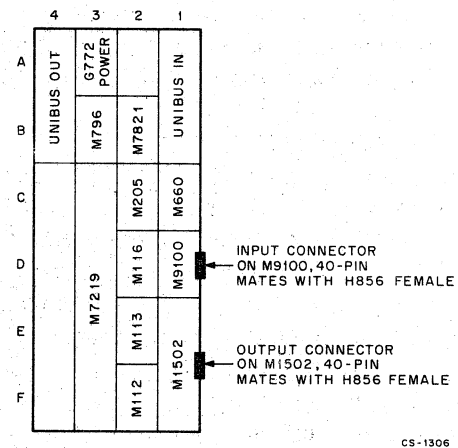

Figure 2-3 DECKit11-D Slot Assignments - Module Side
Figure 2-3 shows the DECKit11-D slot assignments from the module side. After installation, secure the modules with the H852 and H853 module holders. Fasten one H852 module holder between module locations E and F, fasten the other H852 between locations C and D. The H853 module holders are fastened between module locations D and E, and B and C. Slots AB01 and AB04 are the Unibus I/O slots. The use of these slots varies with the type of installation (Paragraph 3.3.1).
Installation of DECKit11-D into a cabinet containing other system units requires an M920 Unibus connector module. The M920 module plugs into slot AB04 of the existing system unit and into slot AB01 of the kit (Figure 2-3). When the kit is installed as the first system unit in an expansion box, a BC11A-XX* cable (of correct length) is required to connect between slot AB04 of the last system unit in the cabinet or previous expansion box and slot AB01 of the kit.
Neither the M920 module nor the BC11A-XX* cable is supplied with the kit. An M930 terminator module must be installed in slot AB04 of the kit (Figure 2-3) when the kit is the last device on the Unibus. The M930 module becomes available when the Unibus is extended from the previous system unit.
There are three wire harnesses available for use in connecting the DECKit11-D to PDP-11 systems. Each expansion mounting box is equipped with a wire harness, terminated with a G772 connector, to mate with power connector slot A03 (Figure 2-3) of the kit. Early PDP-11
Two cable assemblies are required for transferring the user's I/O device 16-bit data words to and from the DECKit11-D. Input signals to the kit are applied through a 40-pin male connector, mounted on the M9100 module in slot D01 (Figure 2-3), while output signals from the kit are brought to a 40-pin male connector on the M1502 module in slot EF01 (Figure 2-3). It is recommended that cable assemblies from the following list be used to interface the kit with the user's I/O device. Cable selection is determined by the type of connections used on the I/O device. The desired cable length (XX) must be specified when ordering.
2. Plug Unibus cable or an M920 Unibus connector module (whichever applies) into slot AB01 (Figure 2-3) of the kit.
The user's I/O device cables can now be connected to the kit at the M9100 module (slot D01) and the M1502 module (slot EF01), (Figure 2-3).